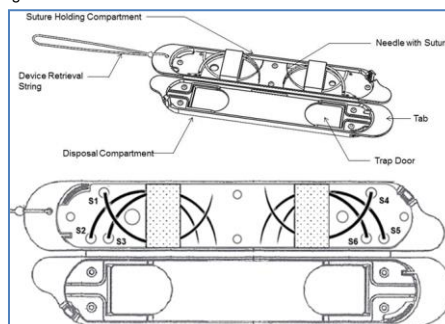

Figure 2 - Views of StitchKit Device when it is open, illustrating key parts and symbols (S1, S2, etc.) on suture exit holes that identify each suture.
- 5.2. Place the used needle (with remnant suture removed) into the disposal compartment via the trap door. It is typically easier to place the blunt aspect of the needle into the compartment first (Figure 2).
Figure 2 shows two views of the StitchKit® device in its open configuration. In the top view key features such as the Disposal Compartment, Retrieval String, and Tabs at the ends of the device are highlighted.
The lower view in Figure 2 illustrates how each suture exits the device through a unique Exit Hole labelled to identify the suture types. In an actual device the generic labels S1 through S6 are replaced with short symbols identifying the actual sutures within the device.